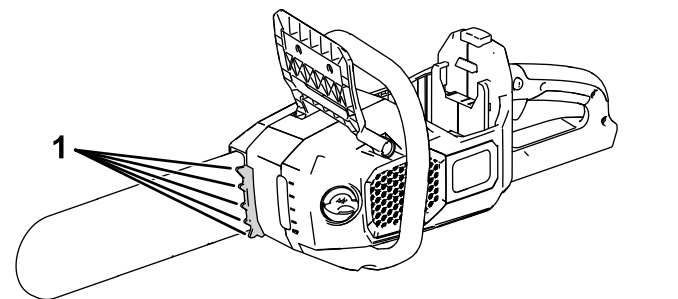

Figure 14
**Note:** You can use the bucking teeth (Figure 14) to apply light pressure.